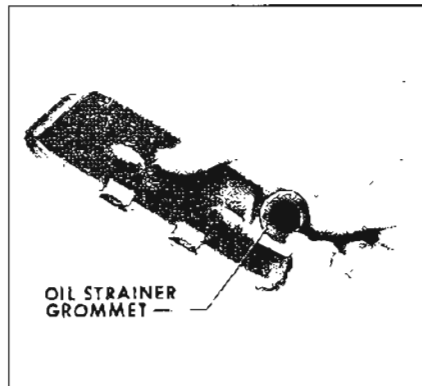

Figure 5-108
5. Examine oil strainer to oil strainer pipe grommet. If nicked, torn or worn, remove grommet. See Figure 5-108.